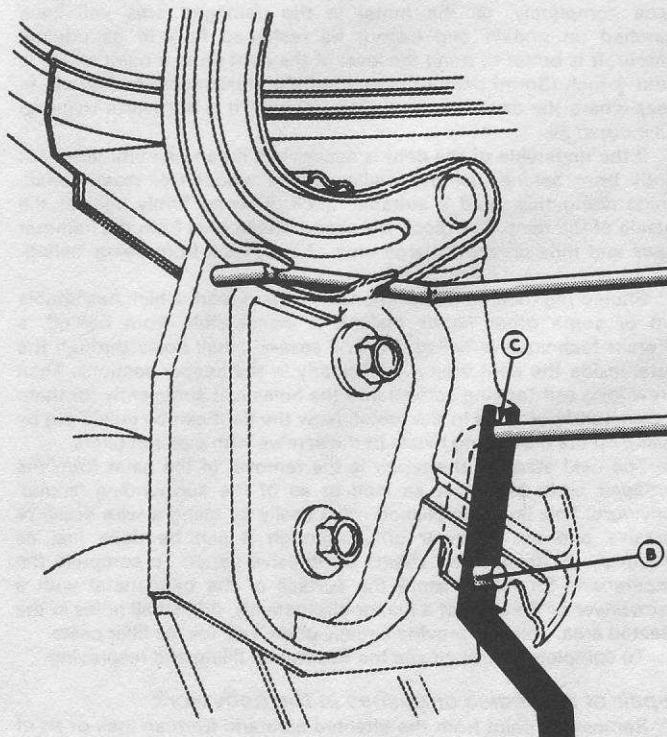

Fig. 12.4 Trunk lid torsion bar – adjustment (Sec 8)
- 3 To adjust the torsion bar tension, place a piece of suitable steel bar over the end of the torsion bar, as shown in Fig. 12.4, then rotate the bar rearward at point C and reposition point B in another notch to increase or decrease the torsion bar tension, as necessary.